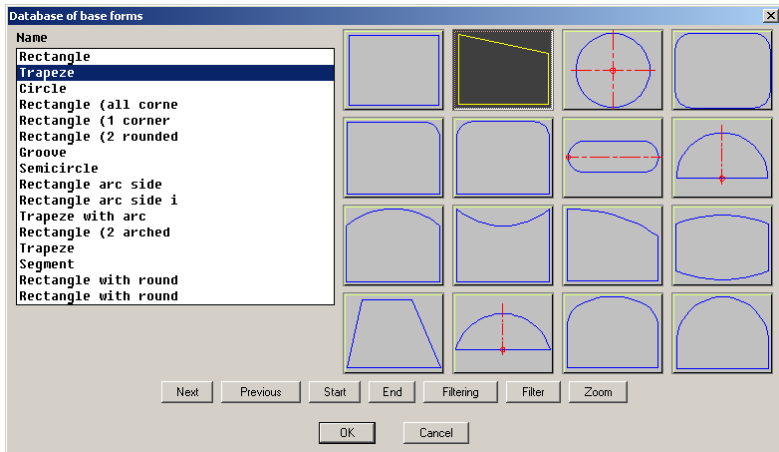

Fig. 3.32 The database of base forms
- Specify a cross-section from the database to create object, see fig. 3.32.